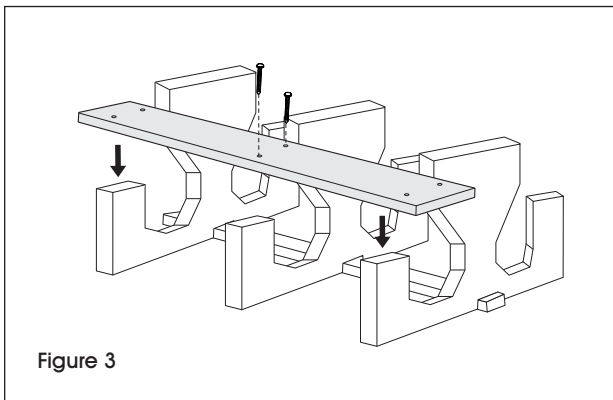

Figure 3
4. Pre-drill center holes on the slats using the power drill and 3/8" drill bit. Loosely attach slats to plastic bases using the 4" lag screws, power drill and 3/4" socket bit (will tighten later in step 8). ( See Figure 3)